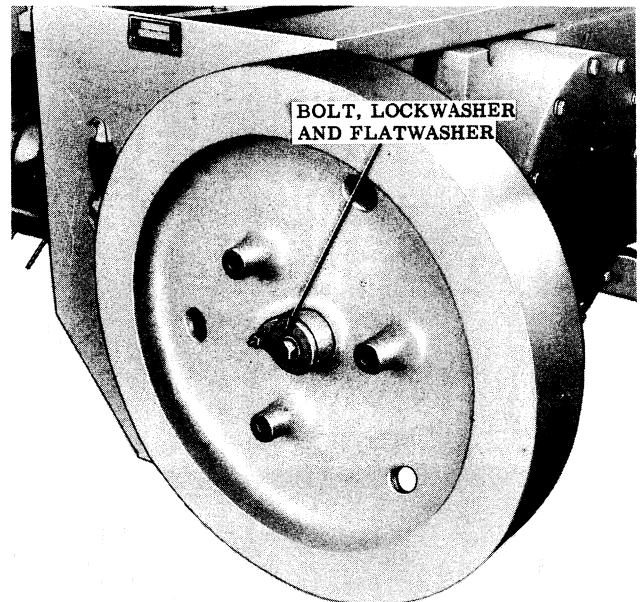

Figure 8. Flywheel Installation
2. Position the flywheel on the splined shaft and secure with the hardware removed. See Figure 8.